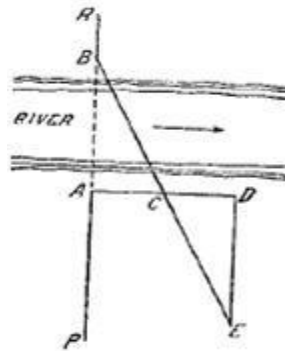

Fig. 2.20
1) Select two points A and B (fig 2.20) on the chain line PR on opposite banks of the river. Set out a perpendicular AD and bisect it at C. At D erect a perpendicular DE and mark the point E in line with C and B. Measure DE. Since the triangles ABC and CED are similar. $AB = DE$